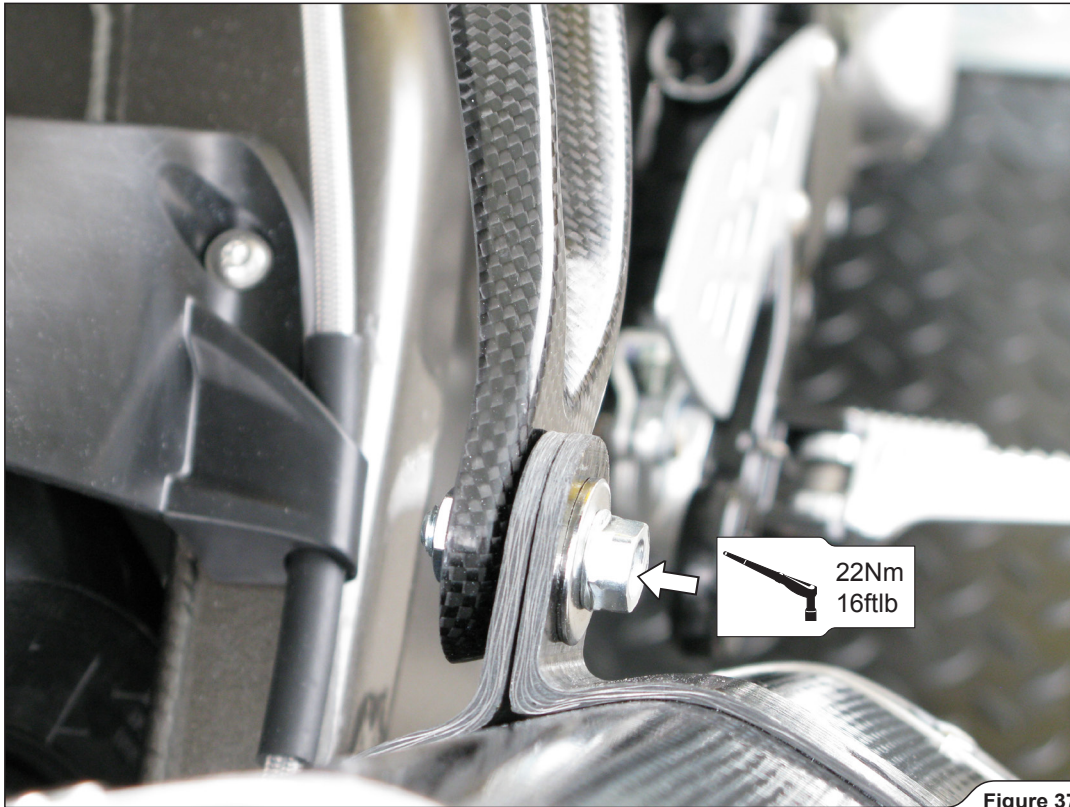

Figure 37
3. Attach the muffler's clamp onto the bracket as shown, using bolt, washers and nut from bracket's installation kit (Figure 37).